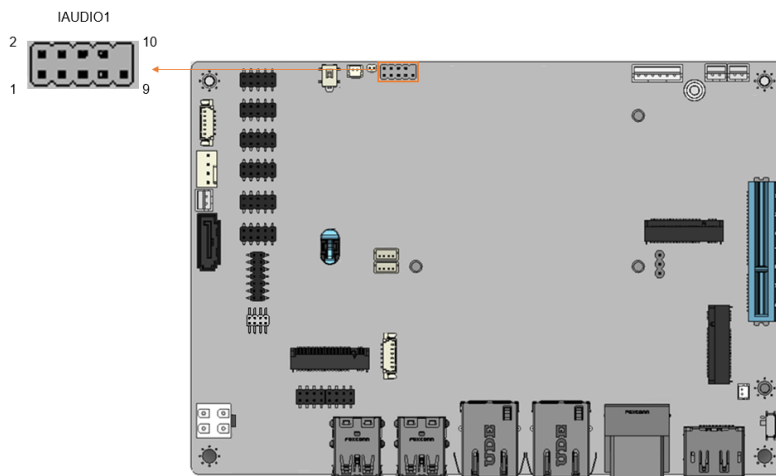

Figure 3-10: Audio Connector Location
- CN Location:** See **Figure 3-10**